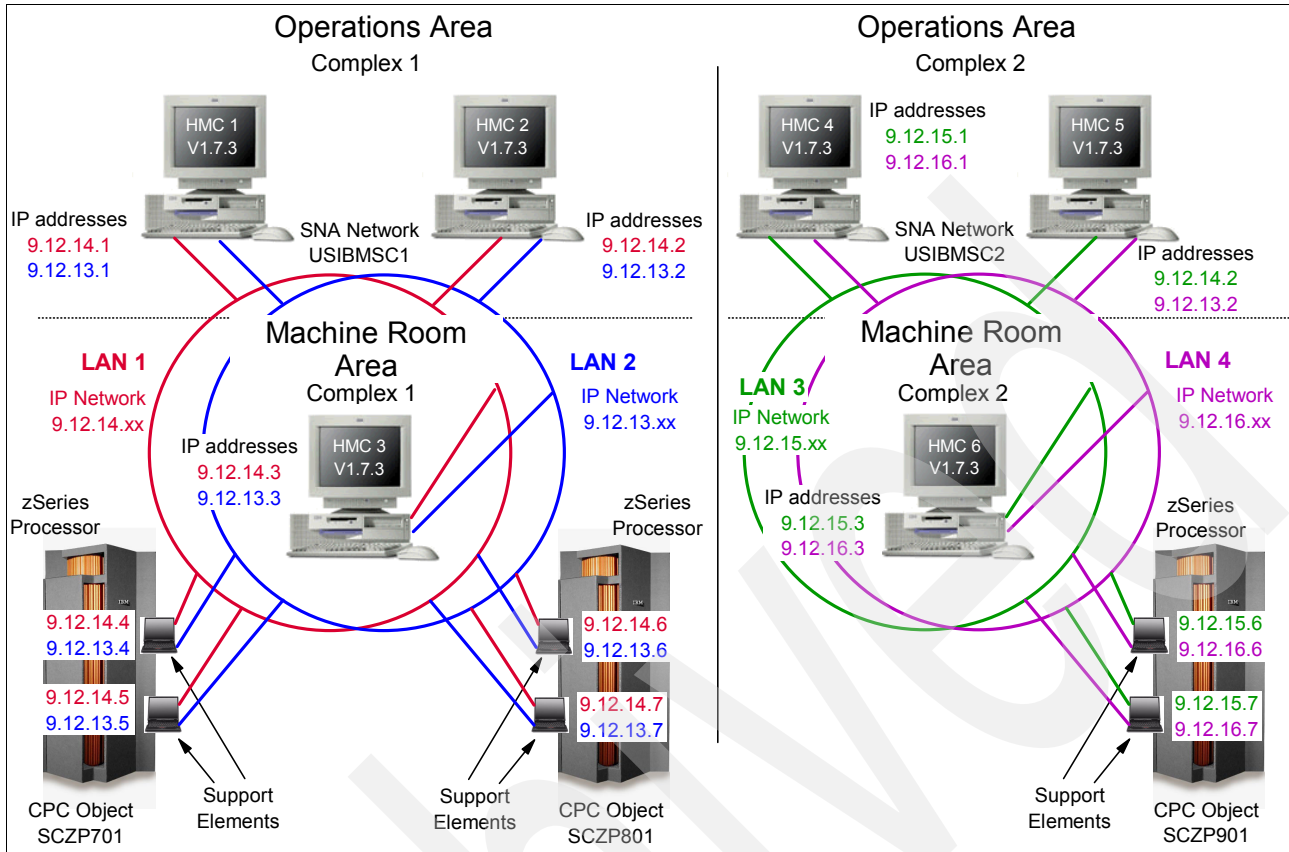
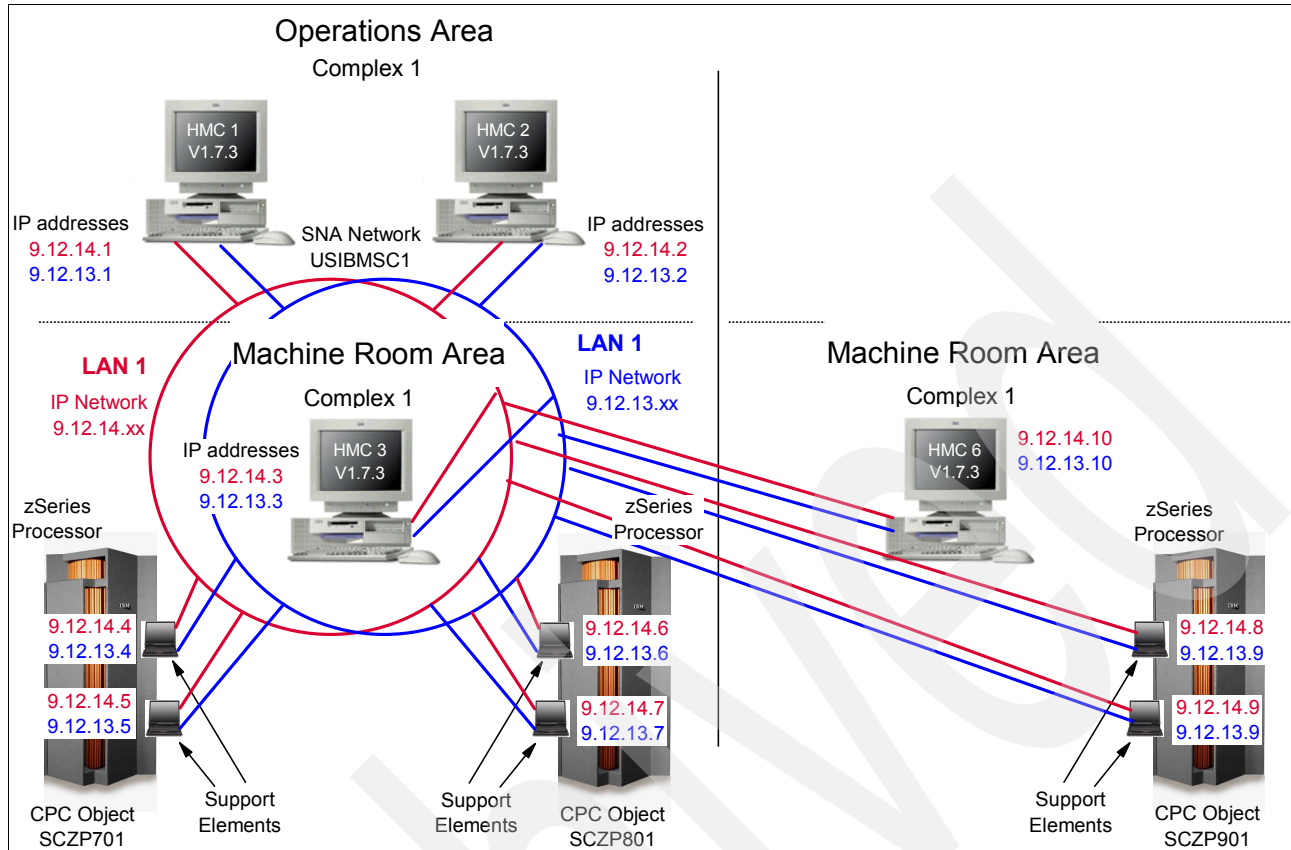

Figure 19-2 HMC configurations for target sysplex and incoming systems
Figure 19-3 HMCplex configuration after the merge
Figure 19-2 on page 310 and Figure 19-3 on page 311 show an example configuration before and after the HMCs have been merged.
Figure 19-2 illustrates the possible HMC configuration that you may have for your existing target sysplex and existing incoming system prior to the merge process. This follows our assumption that the CPC containing the incoming system is currently in a different HMCplex to the CPCs containing the target sysplex systems.
In this example, the decision was made to place all the CPCs in the same Management Domain, and to just have a total of four HMCs managing all three CPCs. The post-merge configuration is shown in Figure 19-3 on page 311.
Figure 19-3 illustrates the final HMCplex configuration after the merge has taken place.
Attention: In Figure 19-2 on page 310 and Figure 19-3, the level shown on the HMCs is significant. The version level of the HMCs must be equal to or greater than that of any CPC (SE) that they will be managing.
To display the current console group configuration of the incoming system or the target sysplex, use the **DISPLAY CNGRUP** command. Refer to Figure 19-3 for sample output from the command. When there is a console group member active, the response from the command includes all groups that are defined, along with the consoles in each group.